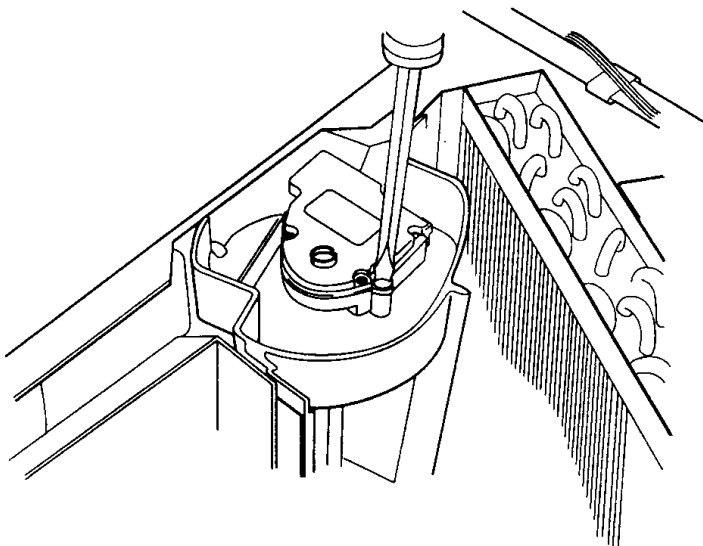
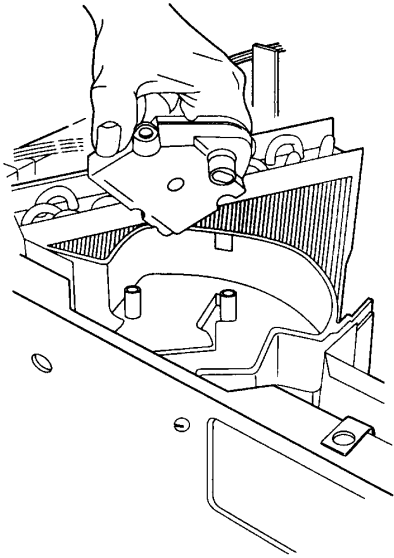

Figure 24 Actuator Mounting Screws
Figure 25 Actuator Remove/Install
3. Remove two screws that secure the actuator to the top of the bunk blend-door assembly (Figure 24) and lift the actuator off the blend-door shaft (Figure 25).
2. Install the two screws that secure the actuator to the top of the bunk blend-door assembly (Figure 24).